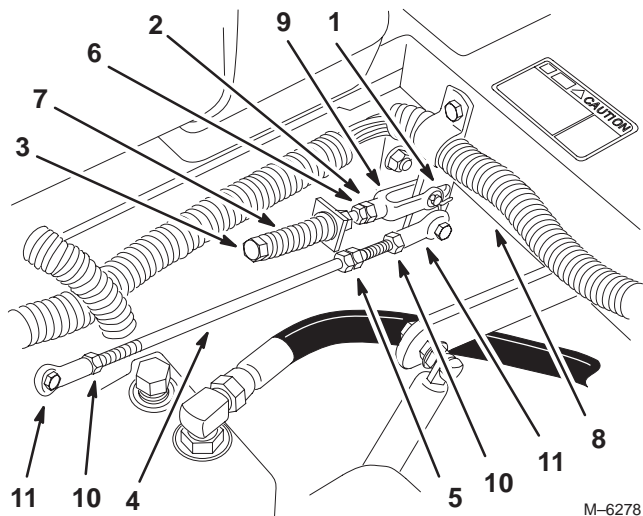

Figure 54
3. Move lever to the neutral position but **not locked** (Fig. 54).
4. Pull lever back until the clevis pin (on arm below pivot shaft) contacts the end of the slot (just beginning to put pressure on the spring) (Fig. 54).
6. If adjustment is needed, loosen the nut and jam nut against the yoke (Fig. 54).
8. Tighten the nut and jam nut (Fig. 54).
1. Loosen the locknuts at the ball joints on pump control rod (Fig. 54).
3. Adjust pump rod length by rotating double nuts on rod, in the appropriate direction, until wheel is still or slightly creeps in reverse (Fig. 54).
6. Tighten the locknuts at the ball joints (Fig. 54).